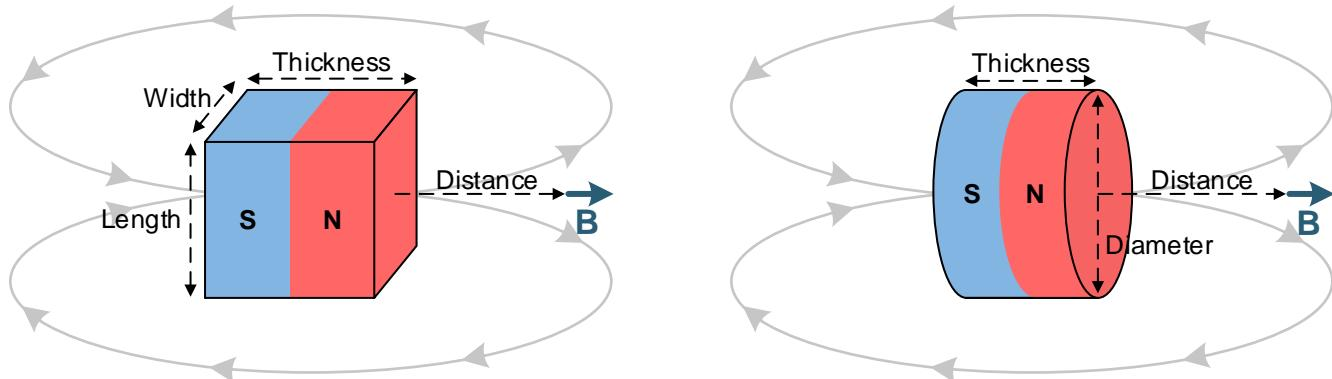

图 21. Rectangular Block and Cylinder Magnets
Magnets are made from various ferromagnetic materials that have tradeoffs in cost, drift with temperature, absolute maximum temperature ratings, remanence or residual induction (B_r), and coercivity (H_c). The B_r and the dimensions of a magnet determine the magnetic flux density (B) produced in 3-dimensional space. For simple magnet shapes, such as rectangular blocks and cylinders, there are simple equations that solve B at a given distance centered with the magnet. 图 21 shows diagrams for 公式 4 和 公式 5.
Use 公式 4 for the rectangular block shown in 图 21:
Use 公式 5 for the cylinder shown in 图 21: